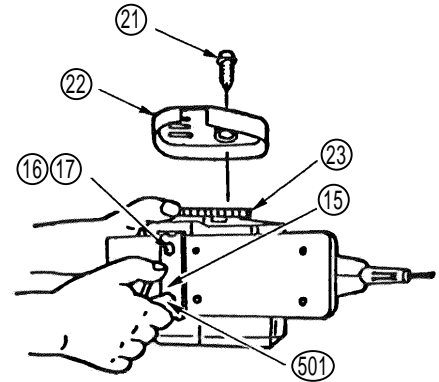

Fig. 1
- Remove the D4 x 12 Tapping Screw (21) which fixes the Belt Cover (22), and disassemble the Belt Cover from the main body.
- As illustrated in Fig. 1, hold the Belt (23) in position with one hand, and with the 8 mm Box Wrench (501) loosen and remove the two Bolts (17) and Spring Lock Washers (16) which fix the Planer Blade (14). The Planer Blade (14) and Blade Holder (15) can then be removed.
- [NOTE] Be very careful not to lose the very small Spring Lock Washers (16).
- Rotate the Belt (23) by hand to invert the Cutter Block (13), and repeat the above procedures to remove the remaining Planer Blade (14) and Blade Holder (15).
- After the Planer Blades (14) have been removed, remove the Belt (23) while rotating it by hand.